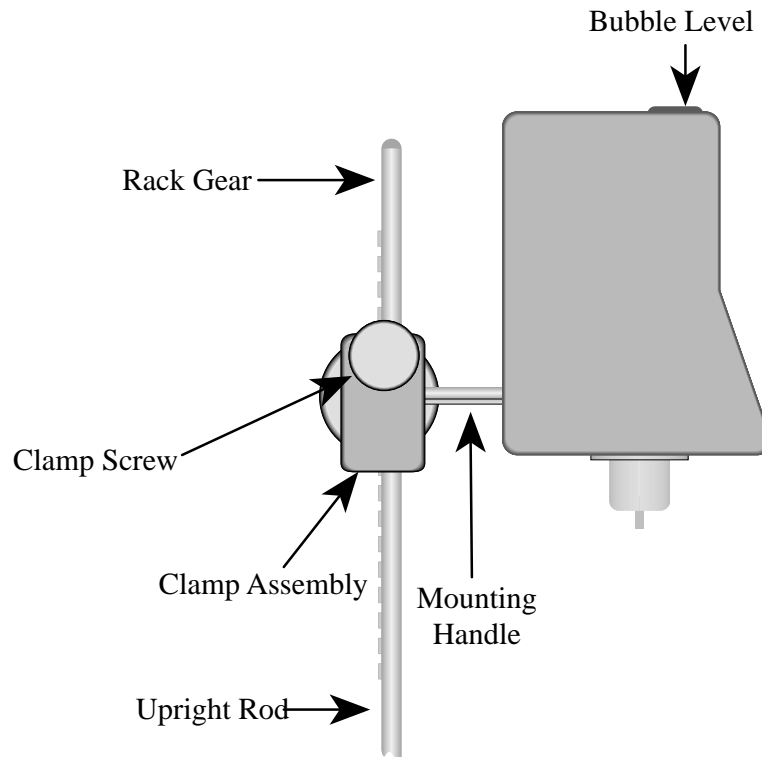

Figure 2
- 2) Insert the mounting handle on the back of the DV-III into the hole on the clamp assembly (Figure 2).
- 3) Tighten the DV-III clamp Screw (Figure 2).